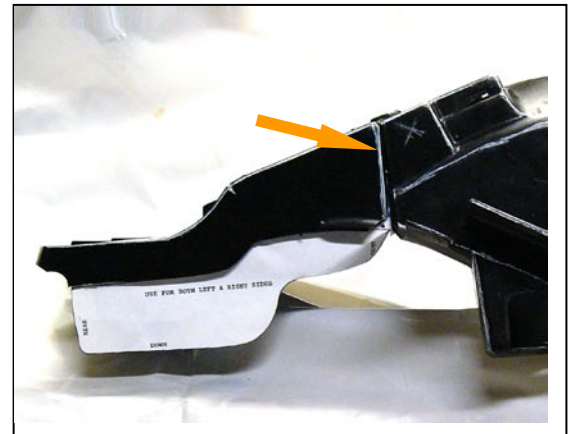

Figure 5
- a. Place supplied template (See last page) on fender (left and right sides) as shown and mark outline. With box cutter, cut fender along template outline. Once material is removed, make a vertical cut up the **side** (line indicated by arrow Figure 5) of the fender. **Do not** continue cut across top of fender. Figure 5